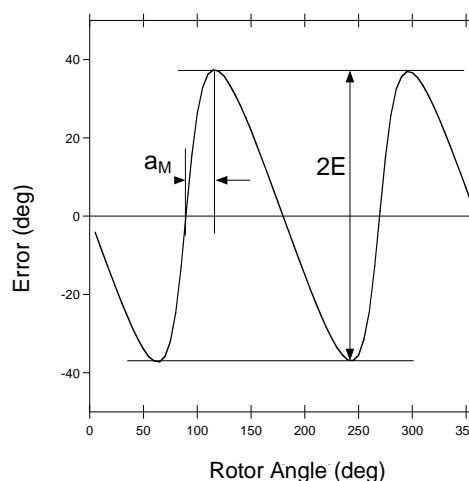

Figure 22: Error Curve in Side-Shaft Configuration with BCT = 0
The k ratio depends on the magnet geometry and the distance to the sensor. Having a k ratio different than 1 results in the sensor output response not being linear with respect to the mechanical angle. Note that the error curve has the shape of a double sinewave (see Figure 22 on page 21). E is the amplitude of this error.
It is possible to deduce the k ratio from the error curve obtained with the default BCT setting (BCT = 0). Rotate the magnet more than one revolution and record the output. Next, plot the error curve (the output minus the real mechanical position vs. the real mechanical position) and extract two parameters: the maximum error (E) and the position of this maximum with respect to a zero crossing a_M (see Figure 22). k can be calculated with Equation (7):